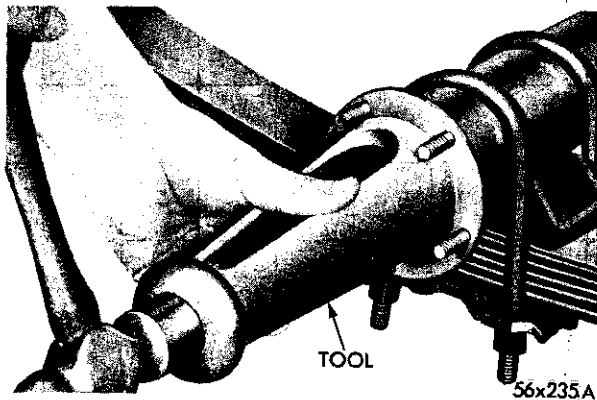

Fig. 6—Installing Axle Drive Shaft Bearing Cup
(2) Lubricate both axle shaft bearings and install axles and bearing cups using Tool C-413 (Figure 6).
(3) With the axle assembled and the brake support